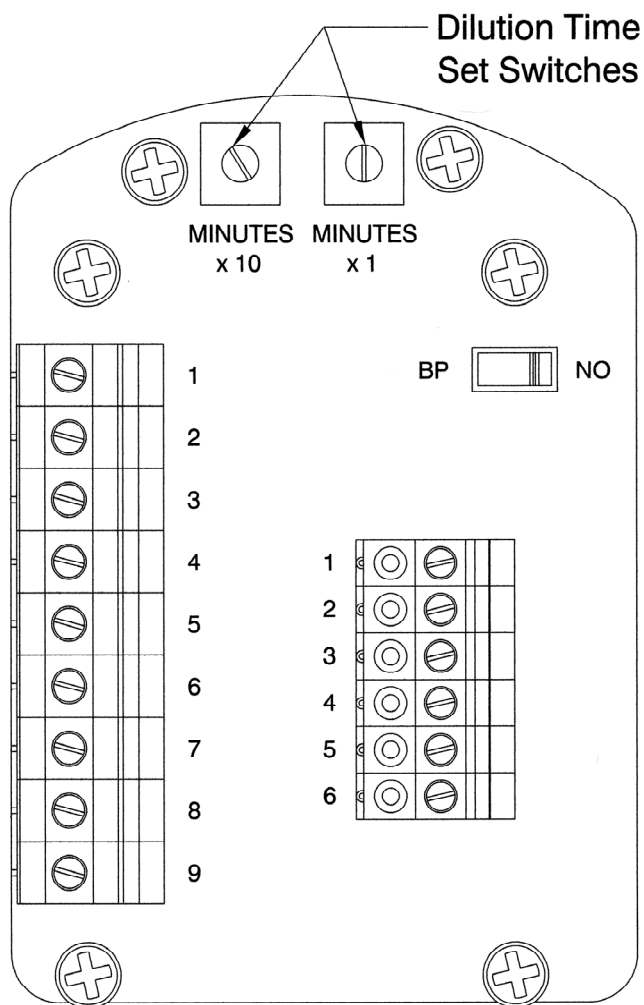

Figure 2
With Automatic Leakage Compensation Purge Gas Inlet Kit solenoid valve wires connected to proper terminal blocks in CYCLOPS X – Purge Controller, SM Version set automatic dilution time cycle to ensure that at least five (5) times the volume of free space in the electronics enclosure is exchanged before power is automatically applied to the electrical equipment. Refer to Figure 2 for location and details of dilution time switches.